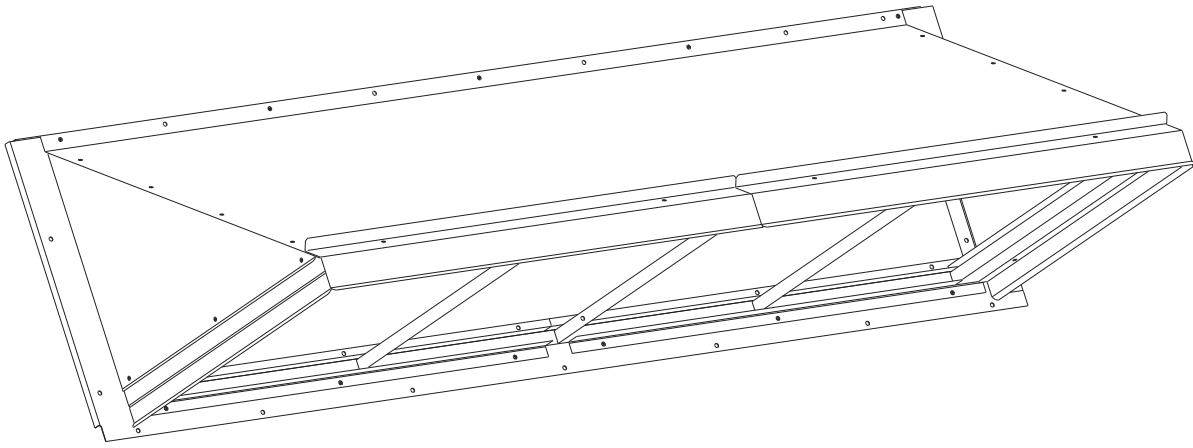

Fig. 7 - Hood Assembly Completed
- 7. Install the hood assembly on the unit. (See Fig. 7 and 8.)